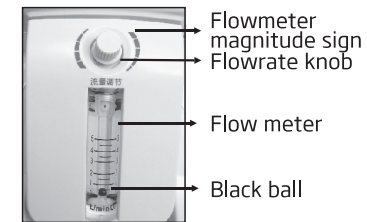

Figure 5
- ▶ Turn the flowrate knob to require oxygen need (Read as centre of the black ball). Turn the knob anticlockwise to increase the flowrate, and clockwise to decrease. Meanwhile, humidifier bottle will have air bubble around the sieve core. Then, oxygen comes from the oxygen outlet. (Figure 5)